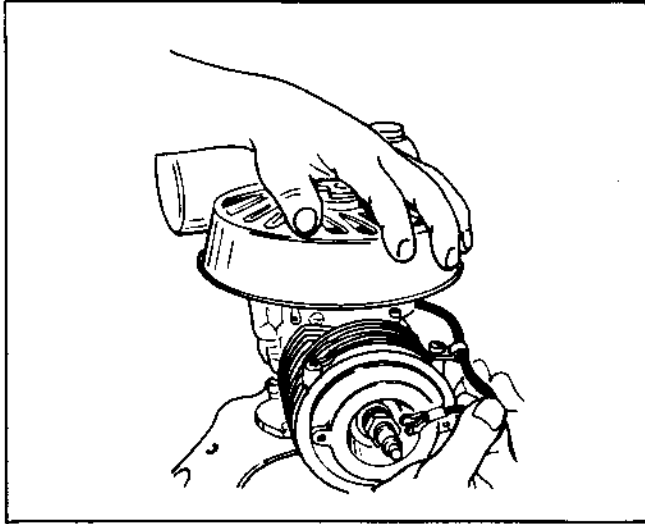

Figure 2-1. Checking for Spark
- (1) Grasp high tension cable by insulation and hold terminal end about 1/8 inch from metal body of spark plug (Fig. 2-1).
- (2) Crank engine. If bright hot spark jumps gap, magneto is operating correctly.
- (3) Remove spark plug and reconnect high tension lead.
- (4) Ground plug and crank engine. If hot spark jumps the spark gap, the ignition system is operating satisfactorily.